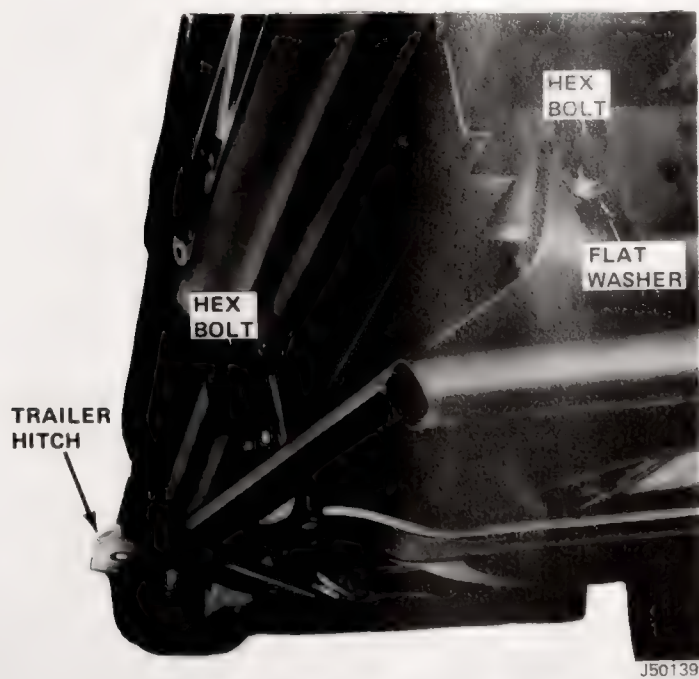

Fig. 8-1 Class I Trailer Hitch Installed
- (1) Remove spare tire from vehicle.
- (2) Position trailer hitch on vehicle (fig. 8-1). Be sure that hitch is centered and that mounting holes are aligned.